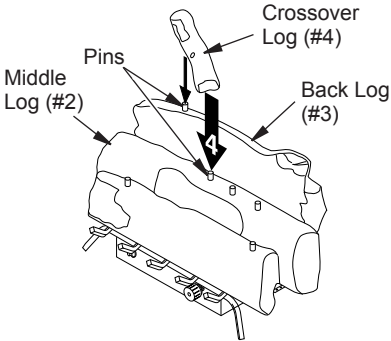

Figure 22 - Installing Crossover Log #4 (CCL3930PTB/NTB Shown)
4. Locate holes on the bottom of crossover log (#4). Slide front hole onto the left pin (CCL3924PTA/NTA or CCL3930PTB/NTB) or middle pin (CCL3018PA/NA or CCL3018PTA/NTA) on the middle log (#2) and the pin on the back log (#3). See Figure 22, page 17, for placement.